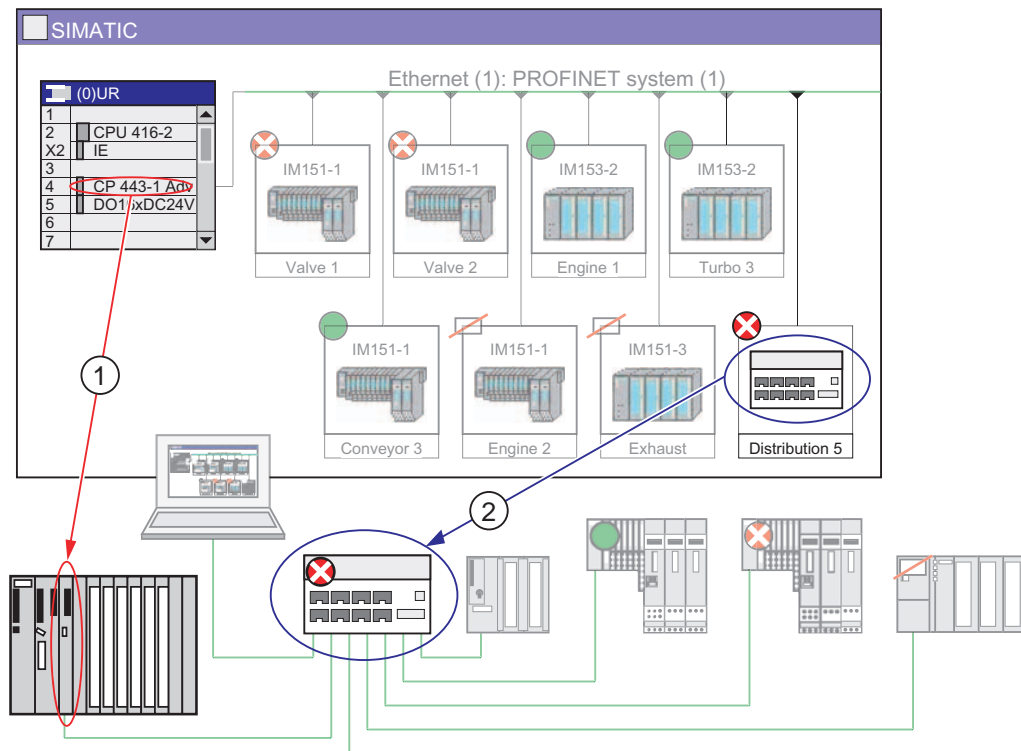

Figure 5-7 Communications Processors and Switches
A communications processor provides diagnostics in STEP 7 identical to that of the PROFINET interface of a CPU. This applies to all communications processors used as the PROFINET interface in a PC (number ①, Figure 5-7).
If a switch (for example, SCALANCE X 200/400) supports PROFINET IO and is integrated in the configuration like a field device, you can run diagnostics on this switch like a field device in STEP 7 (number ①, Figure 5-7).